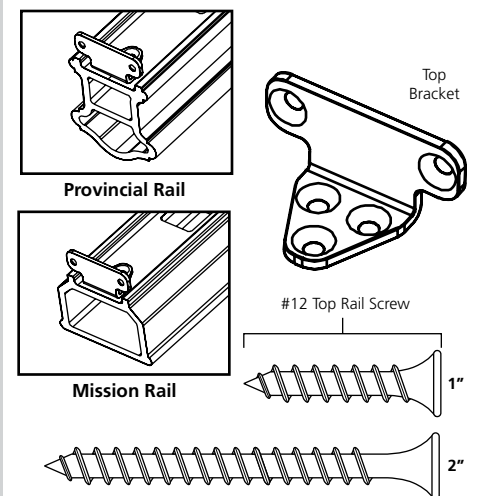

Figure 14
7. Repeat steps 5-6 for the top rail. Center the top bracket on the underside of the top rail and mark the three hole locations (Fig. 14). Pre-drill 5/32" holes at desired locations. Secure top bracket with three #12 x 1" long screws. **DO NOT OVERTIGHTEN SCREWS.**